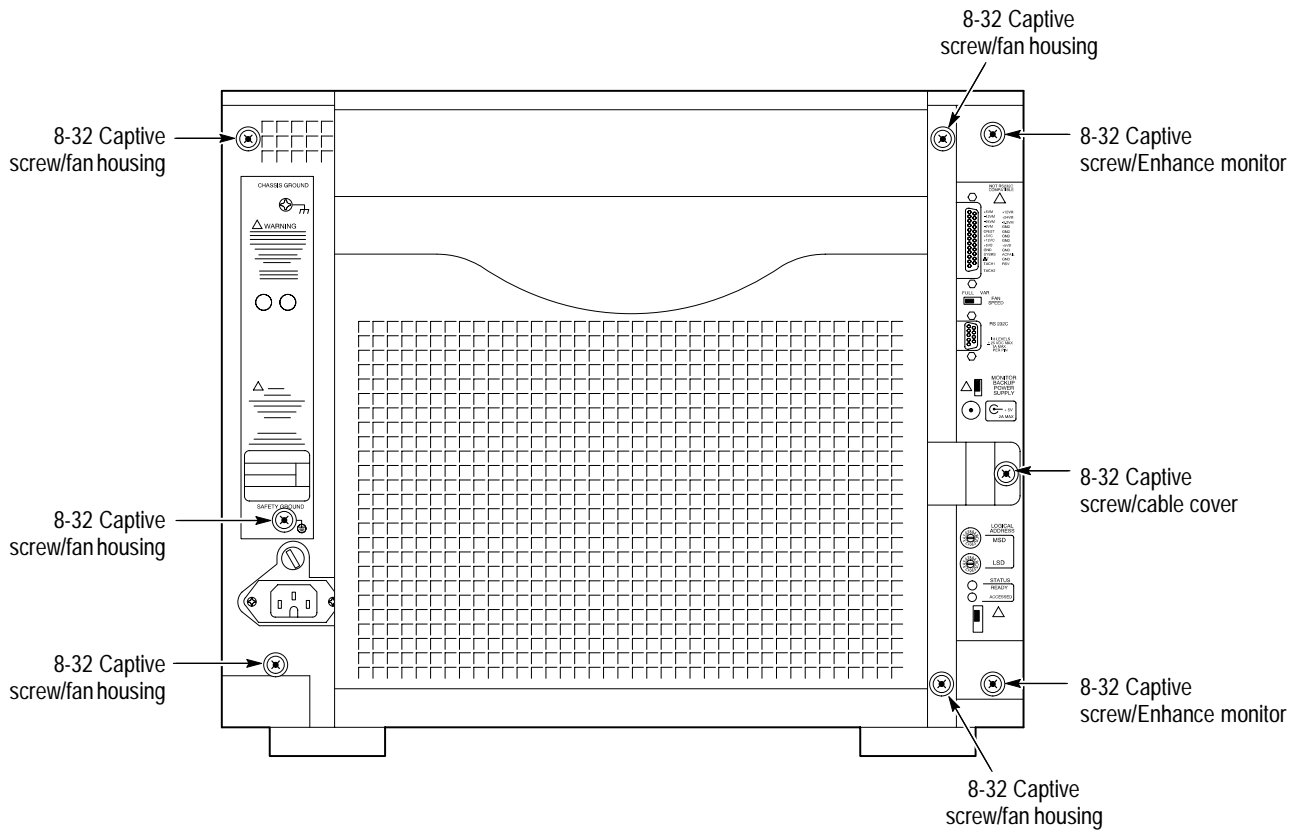

Figure 8-3: Location of fan assembly screws on the rear of the mainframe
To remove the VX1410A and VX1420A fan/blower assemblies, refer to Figures 8-3, 8-4, 8-5, 8-6 and 8-7 while performing the following steps:
1. Loosen the captive screw that secures the fan cable cover to the instrument. Remove the cable cover. Refer to Figures 8-3 and 8-4.
4. From the back of the mainframe, loosen the five captive screws using a Phillips screwdriver. Refer to Figure 8-3 for screw locations.